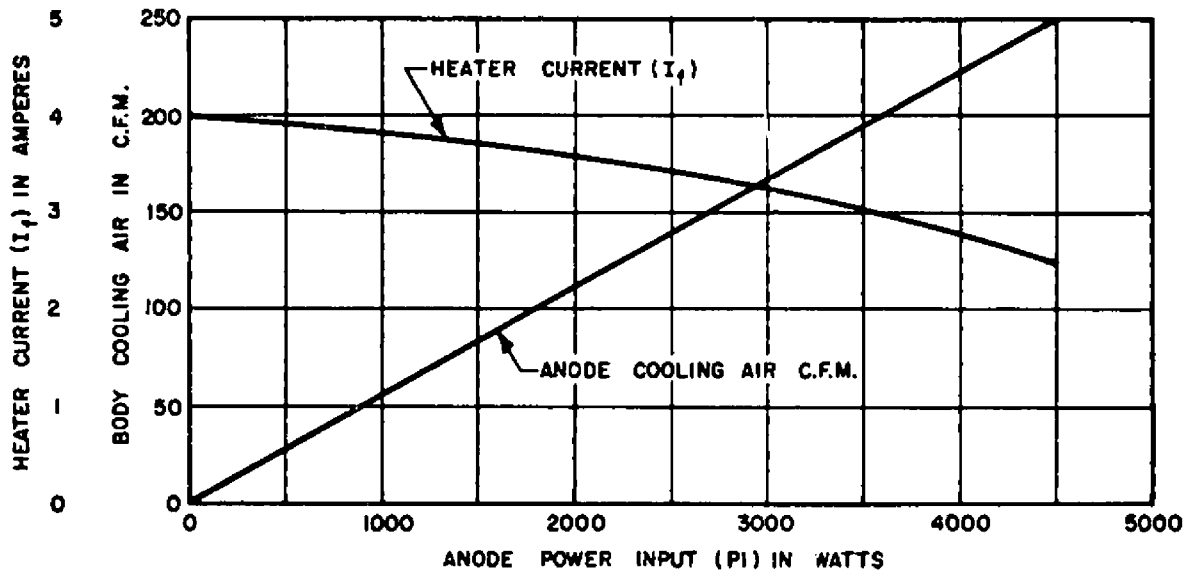

FIG. 3
- Figure 3 This is a plot of required filament current and anode cooling air versus applied average anode power input.
Note: The air cooling information plotted in Figure 3 above is based on a maximum rise in magnetron body temperature of 60°C above a maximum ambient of 50°C with an anode dissipation of 2250 watts.